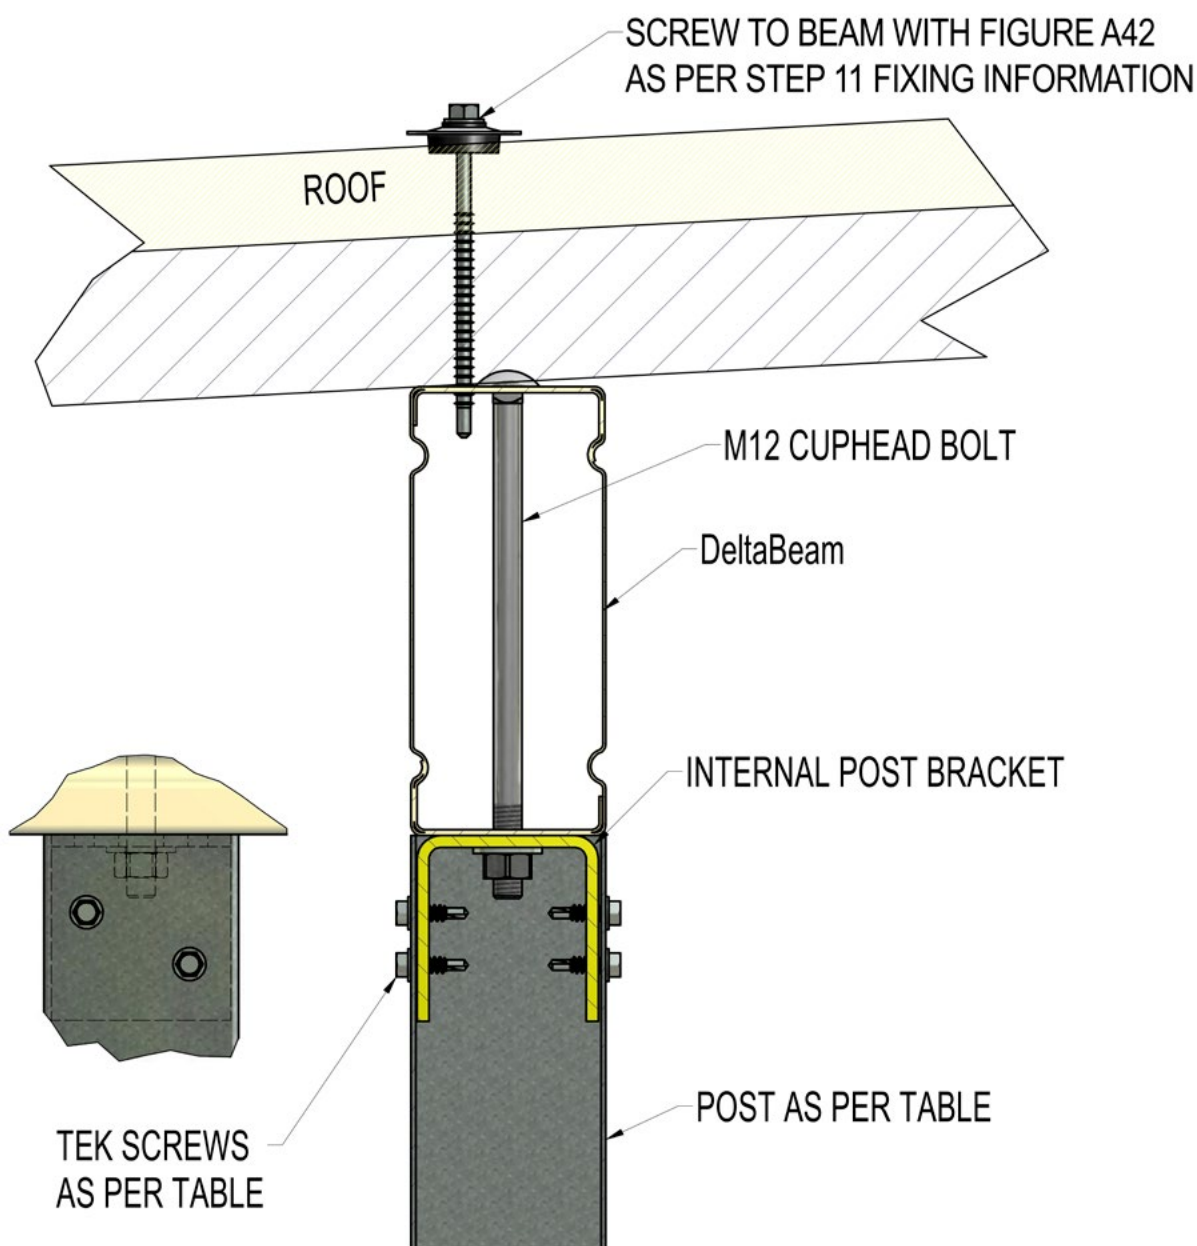

Figure A26
**Delta™ Steel or Aluminium Beam to Post (see Figure A26)**